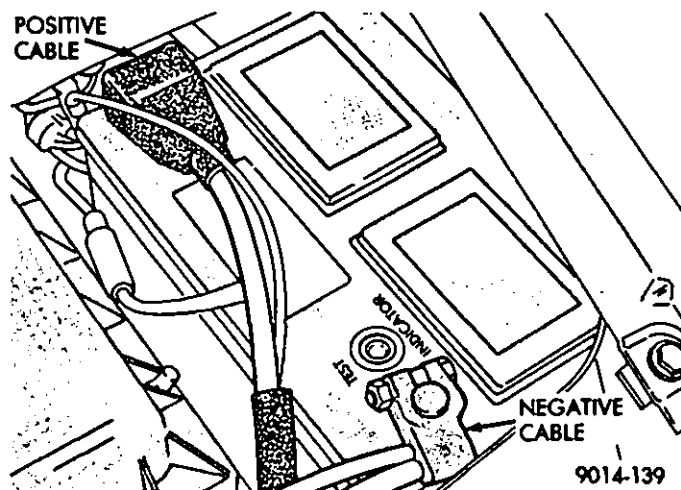

Fig. 19—Battery Cable Connections
(1) Inspect battery cable connections. They should be tight. The top of the battery should be free of corrosion and grime (Fig. 19). Check the color of the test indicator on the top of the battery. Refer to group 8B.